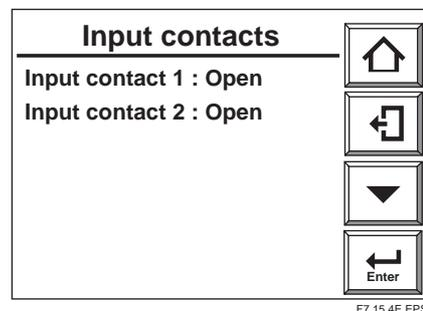

Figure 7.15.4 Input Contact Check Display
- (1) Follow the previous section to display the contact check display.
- (2) Display the Input contacts as Figure 7.15.4 shows. The “Open” or “Closed” on this display shows the current contact input terminal status, and the display changes according to the contact status. This enables you to check that the wiring connections have been properly completed.